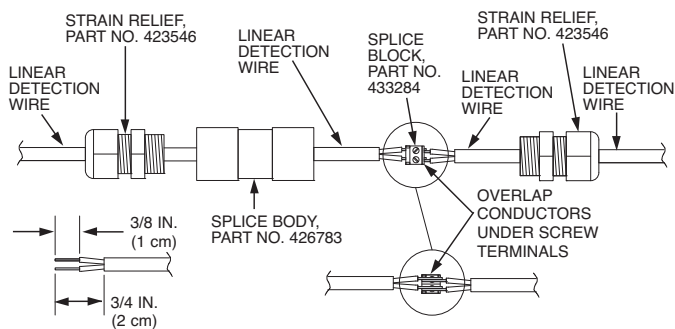

FIGURE 14
- ▶ When the splicing device is used in the system, it is recommended to fill the splice body, Part No. 426783, with a high grade of silicone sealant (Dow Corning 737 or equal) to make a proper seal. The kit consists of the necessary number of components to assemble 10 complete assemblies. See Figure 14.